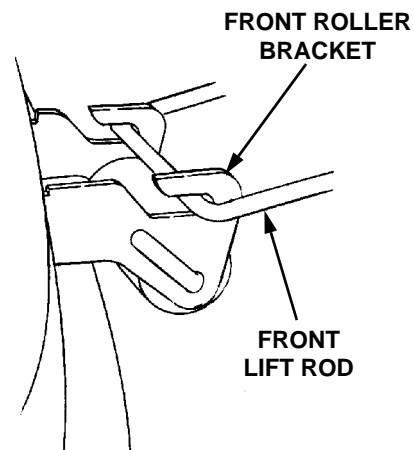

Figure 54
5. While holding the front lift rod up, slide the mower deck forward until the rod aligns with both front roller bracket slots. Lower the lift rod into the front roller bracket slots and slide the deck rearward to engage the lift rod fully forward in the slots of the deck front roller bracket (See Figure 54).